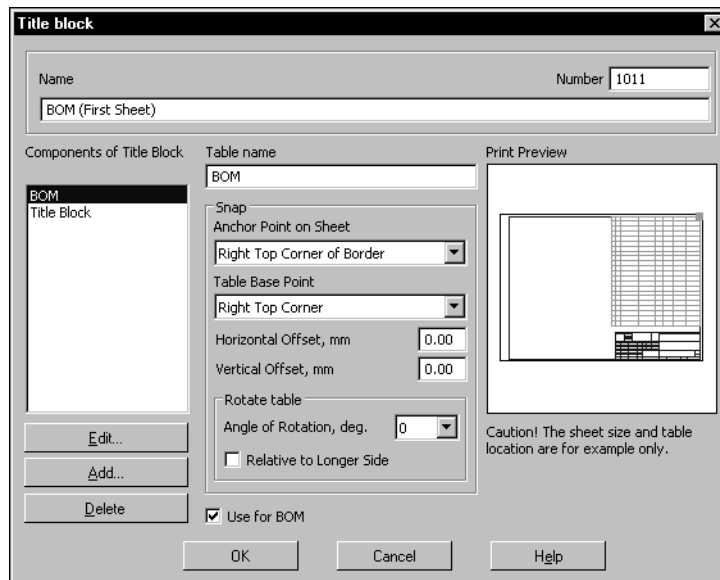
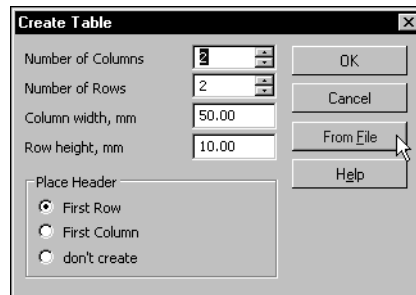

Fig. 10.2. Title block creation and editing dialog
Fig. 10.3. Dialog for creating a new table
3. Click button **Create Style** to proceed to creation of a new Title Block in the current library. The Title Block creation dialog will appear on the screen (Fig. 10.2).
The preliminary setting up of a new table of the Title Block, as well as usual tables, is carried out using the new table creation dialog (Fig. 10.3). The dialog appears on the screen after clicking button **Add...** in the Title Block creation dialog (Fig. 10.2).